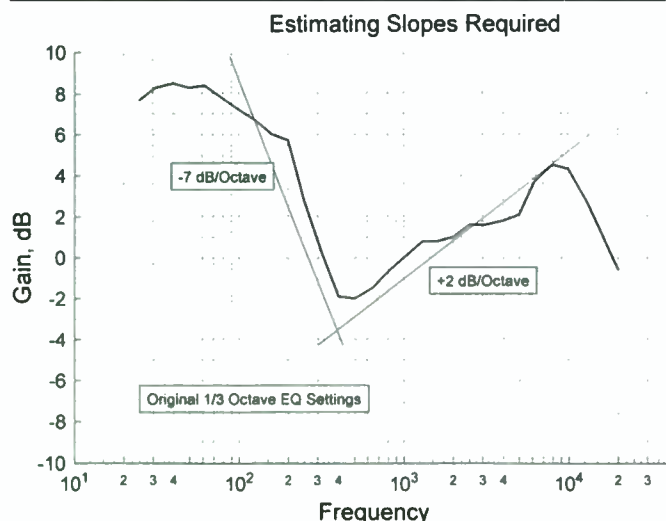

FIGURE 1: Original 1/3-octave EQ settings and two straight-line slope estimates.
A colleague who designs and installs very expensive home-theater systems came to me with a graph and a request. The graph displayed the settings of a third-octave EQ, the irregular serpentine curve shown in *Fig. 1*, which made the installed system sound "just right." The request was for me to construct a two-channel active EQ box, duplicating the settings as closely as possible, as a replacement for the adjustable third-octave EQ. Obviously, my friend did not want the owner to "diddle" with the settings.
This posed a dilemma, because nearly any response shape is possible with a multi-band EQ. *Figure 1* has an interesting feature that emerged as I studied it more closely. I can overlay a couple of straight lines, as seen in *Fig. 1*, that intersect at 500Hz where there is a dip in the desired response. In addition, a broad low-frequency (LF) peak exists around 100Hz, and a somewhat narrow high-frequency (HF) peak around 10kHz.